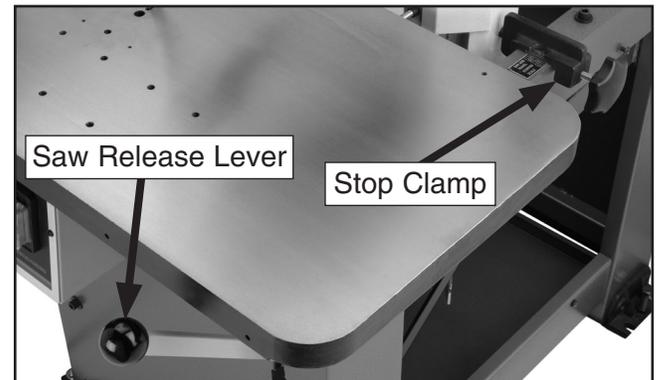

Figure 26. Saw frame moved forward.
1. Remove the stop clamp, then release the saw frame by lifting the saw release lever. Allow the saw frame to move all the way forward, as shown in **Figure 26**.